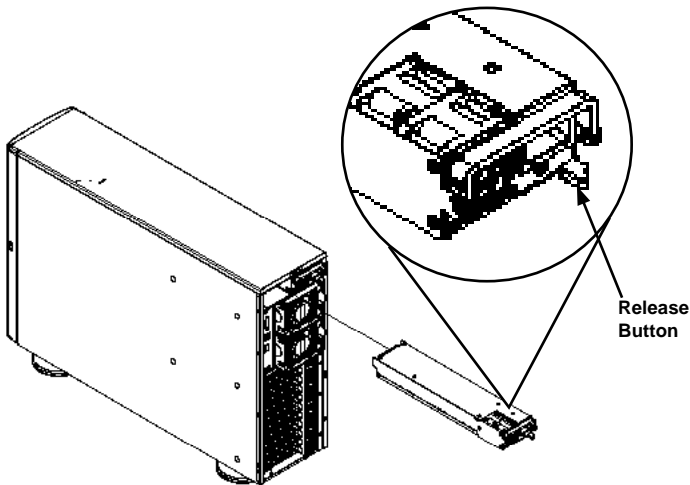

Figure 6-21. Power Supply Release Button
2. On the front of the chassis, push the release button on the power supply module. (Figure 6-21)